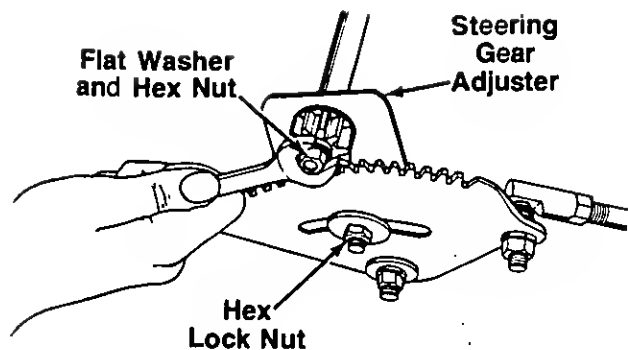

FIGURE 3.
6. Now tighten the hex nut which secures the pinion gear. See figure 3.
7. Make certain the hex lock nut which secures the steering segment to the steering gear support bracket (shown in figure 3) is tightened so there is no play between the two parts. Do not over-tighten as the steering segment must be free to turn.